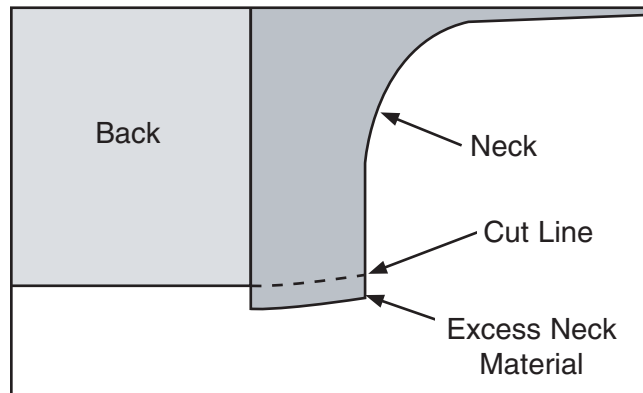

Figure 5. Excess neck material and cut line.
6. Use a coping saw to remove the excess neck material that protrudes below the back of the guitar (see **Figure 5**).